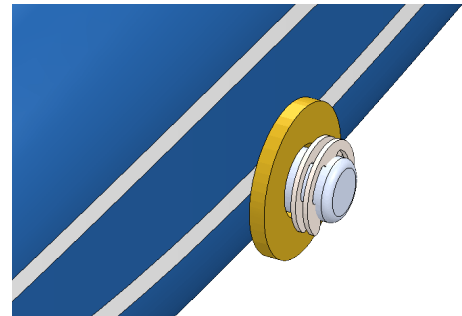

Fig. 8
Step 14. **Browse** and place **two E-Clips on Front Axle**, **Fig. 8**. Keep parts close to Washer. Release when cursor changes to indicate a Concentric mate .